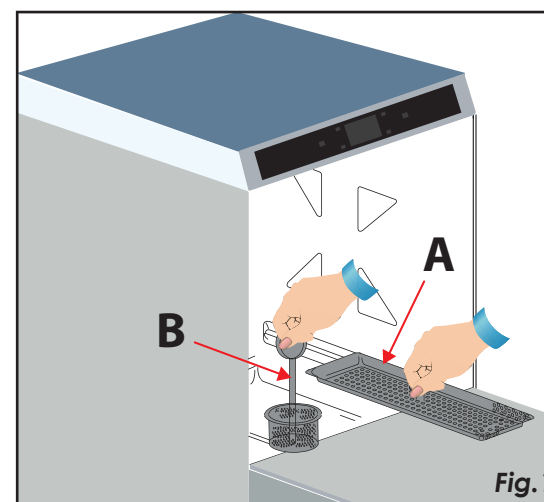

Fig. 1
2. With the machine ON, press the Drain button (3) for 4 seconds. The display will show TANK DRAINING (13).
3. Once drained remove the SURFACE FILTER (A) and the PUMP SUCTION FILTER (B) and clean with a brush under running water. Replace the SURFACE FILTER (A) and the PUMP SUCTION FILTER (B) after cleaning and before initiating a new cycle, Fig. 1.
**WHEN REMOVING THE SURFACE FILTER (A) AND PUMP SUCTION FILTER (B) CAREFULLY MAKE SURE SCRAPS OF FOOD DO NOT FALL INTO THE DRAIN PUMP.**